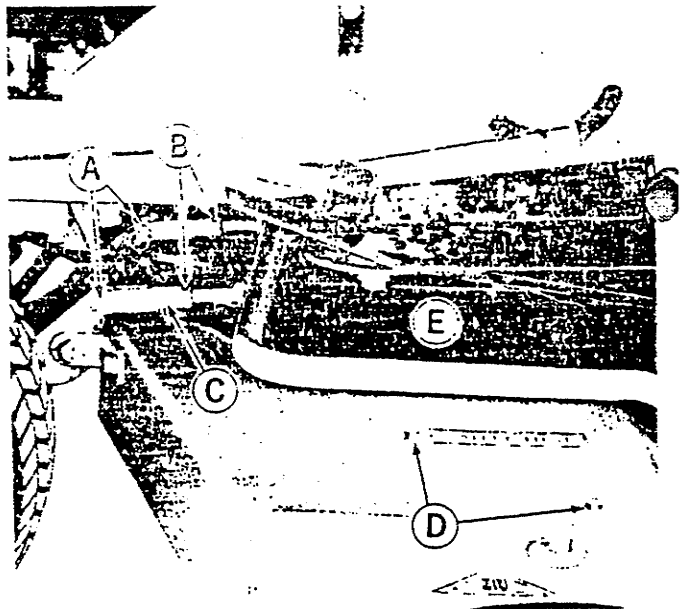

Figure 8. Left side of mower.
10. See figure 8. If adjustment is needed, remove the two spring clips and pins (A). Loosen the locking nuts (B) and turn the eyebolts (C) counter-clockwise to raise the front of the mower, or clockwise to lower the front of the mower as needed. Always turn each of the eyebolts the same number of turns in the same direction.
11. See figure 8. After making the adjustment, tighten the locking nuts (B) and reinstall the pins (A) and spring clips.
1. See figure 8. Remove the capscrews (D) and the two belt covers (E) from the mower deck.
6. See figure 8. Replace the belt covers (E) and capscrews (D)